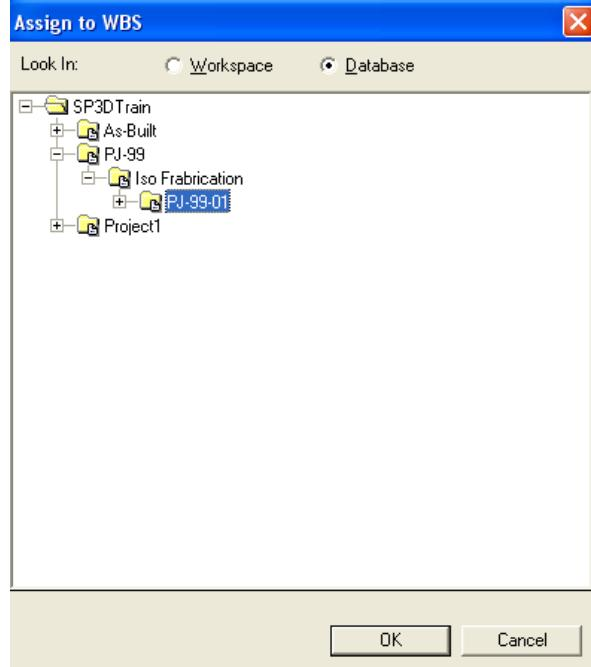

Figure 71: Assign To WBS Dialog Box
8. In the **Assign to WBS** dialog box expand **PJ-99** folder and select **PJ-99-01**, as shown in Figure 71. Then click **OK**. A message is displayed stating that the object you are trying to assign is in non-working status. This message indicates that you cannot assign piping parts to a WBS item in non-working status.